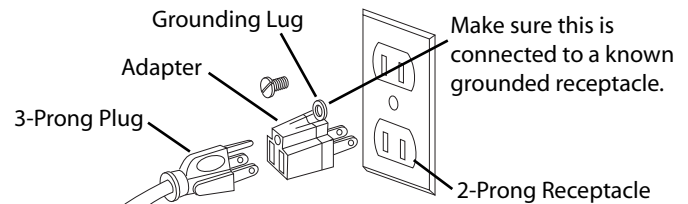

Figure 5 – 2-Prong receptacle with adapter.
- A temporary 3-prong to 2-prong grounding adapter (See Figure 5) is available for connecting plugs to a two pole outlet if it is properly grounded.